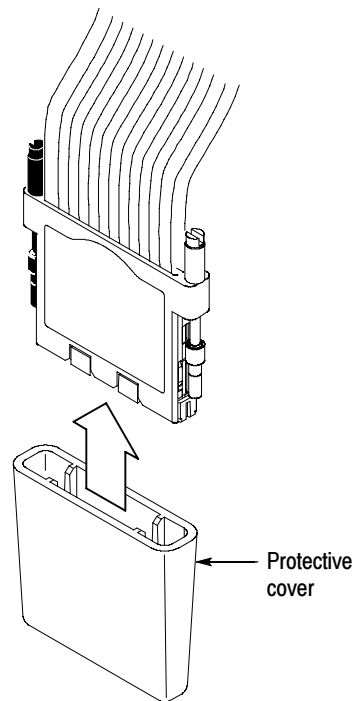

Figure 8: Protecting the probe head
- Always store the probe head in the protective cover when not in use. See Figure 8 on page 12.
To protect the interface clip, it is important to properly store the probe head when the probe is not in use. See Figure 8.